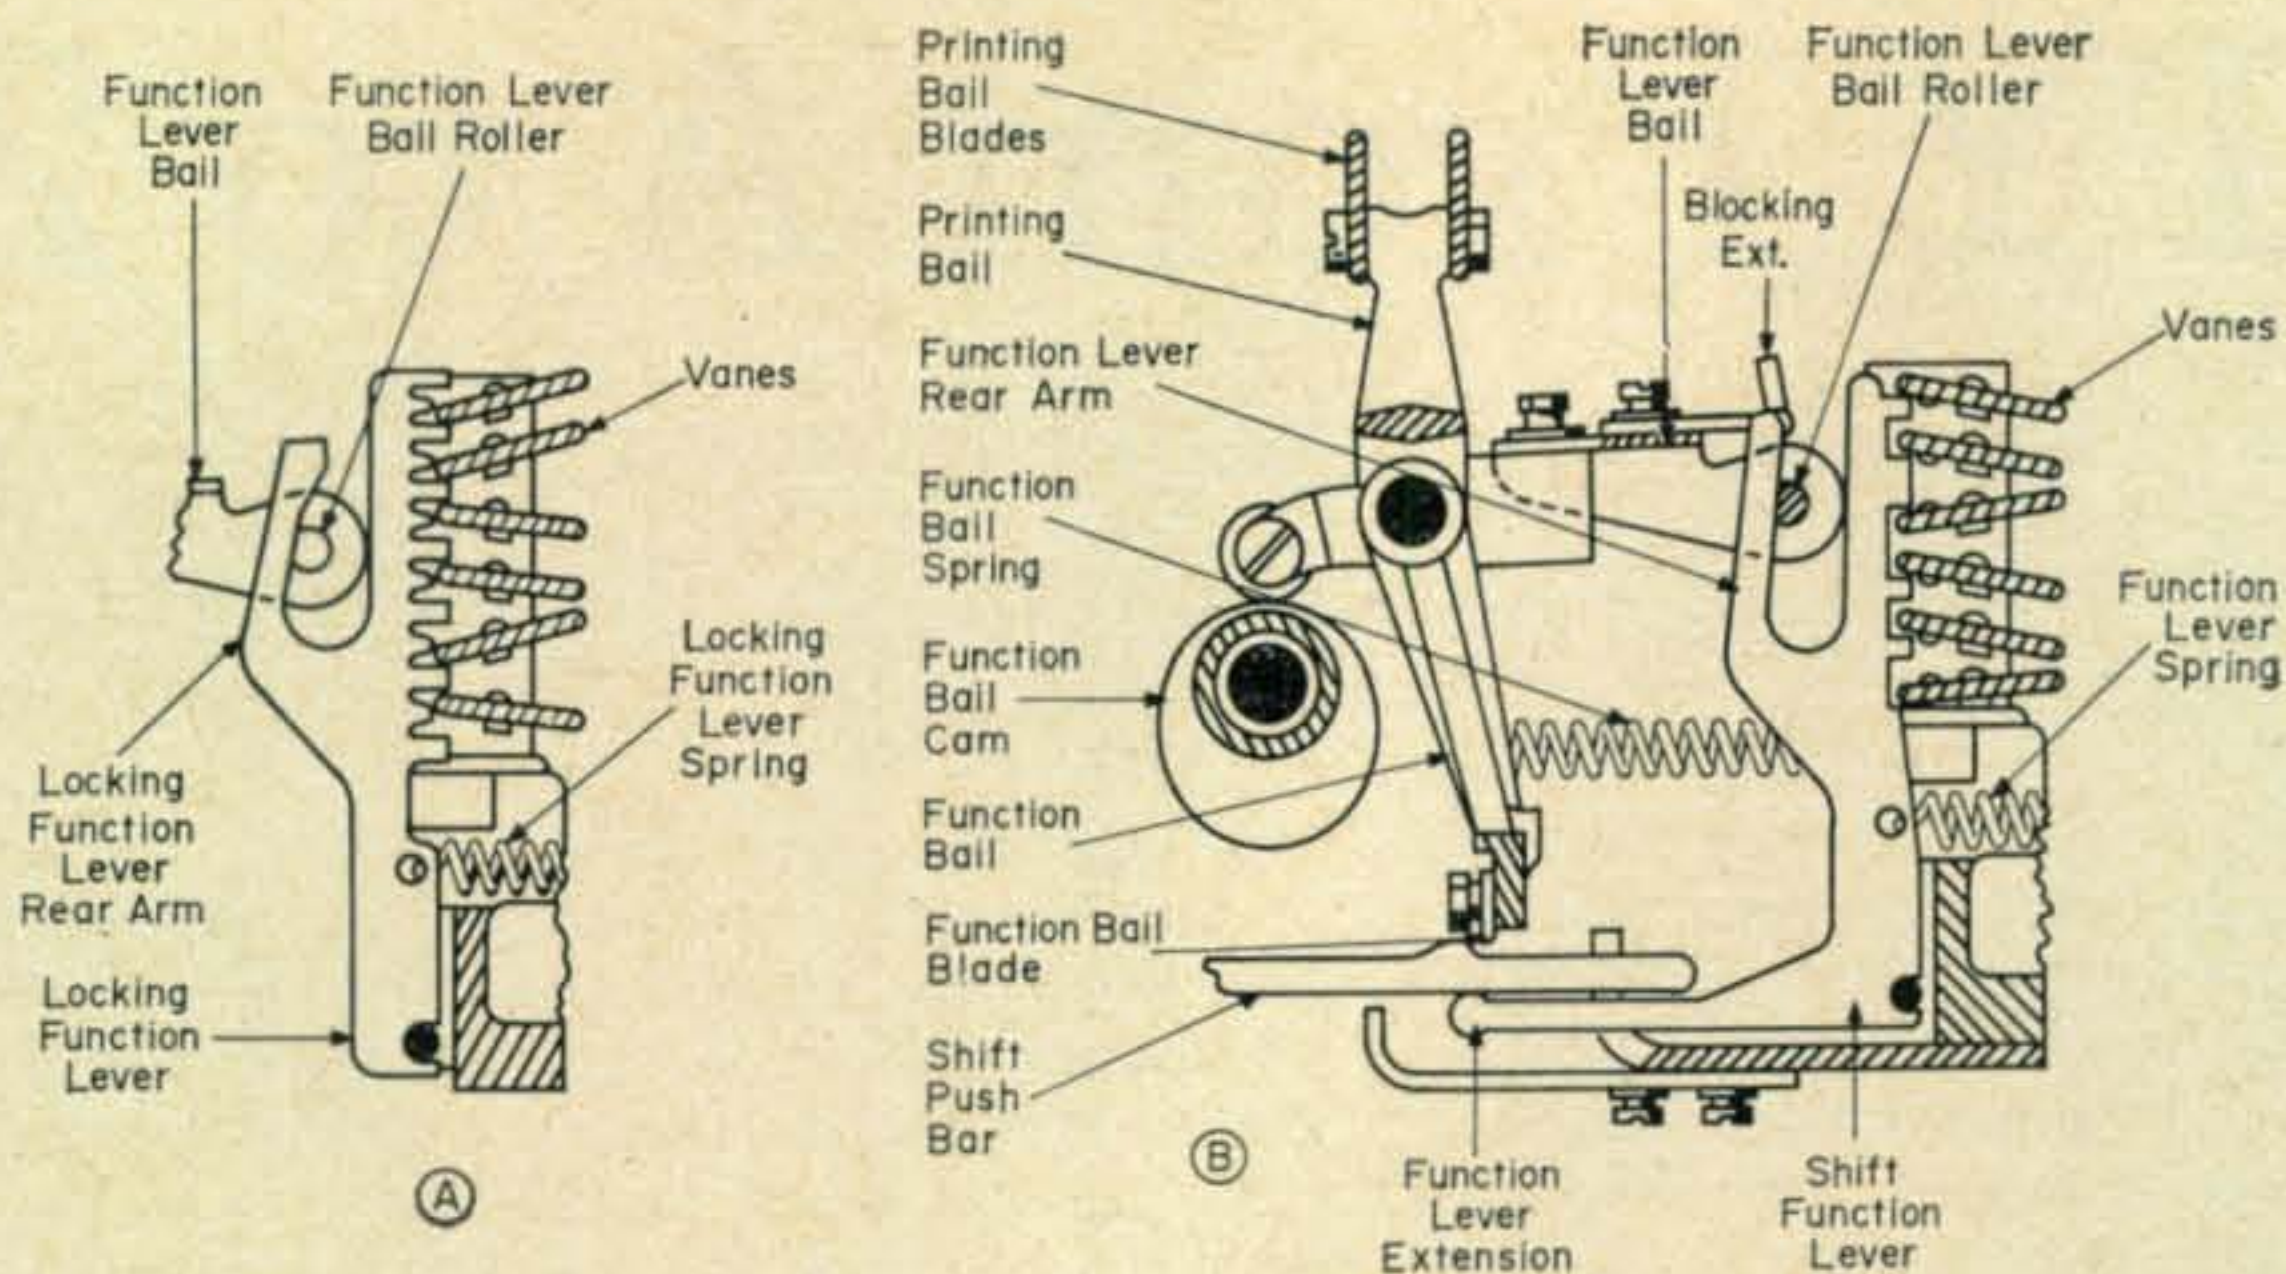

Fig. 142 (A)—Locking function lever. (B) Function lever mechanism.
The locking function lever is the first on the right of the functional levers, which are mounted behind the vanes. The locking function lever (fig. 142 (A) and (B)) locks or holds the vanes in the selected position until a character is printed or a function has been performed.
The function bail is mounted on the bail-mounting shaft (fig. 142(B)). It is used to operate some of the functions, and is moved by the function bail cam. The function bail has a blade attached to its lower extremity which engages the function push bars.